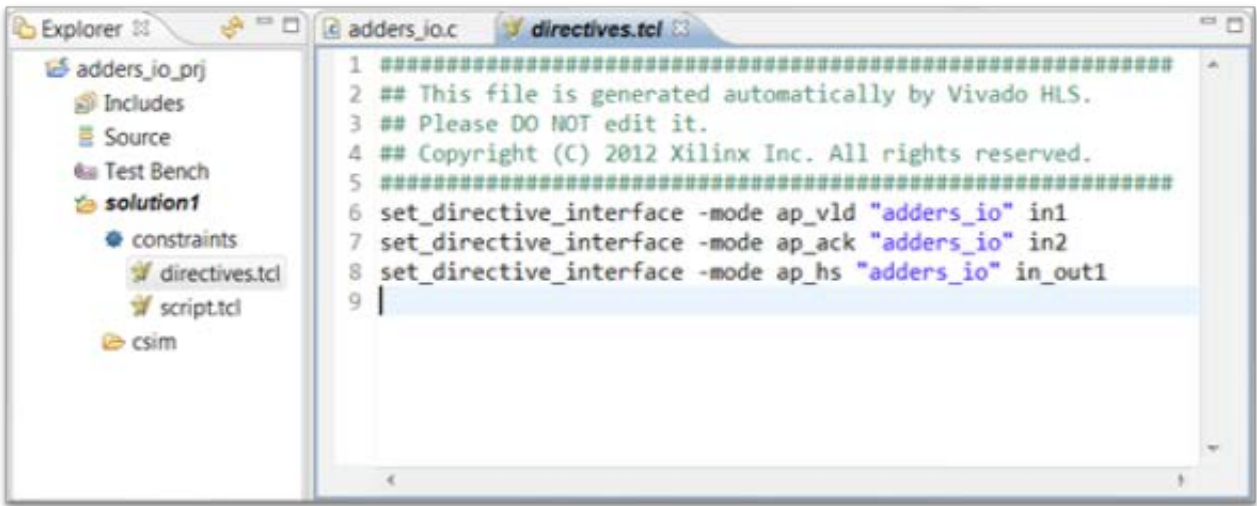

Figure 67: Directives for Lab 2
- In the Explorer pane, expand the Constraints folder and double-click the `directives.tcl` file to open it, as shown in Figure 67.